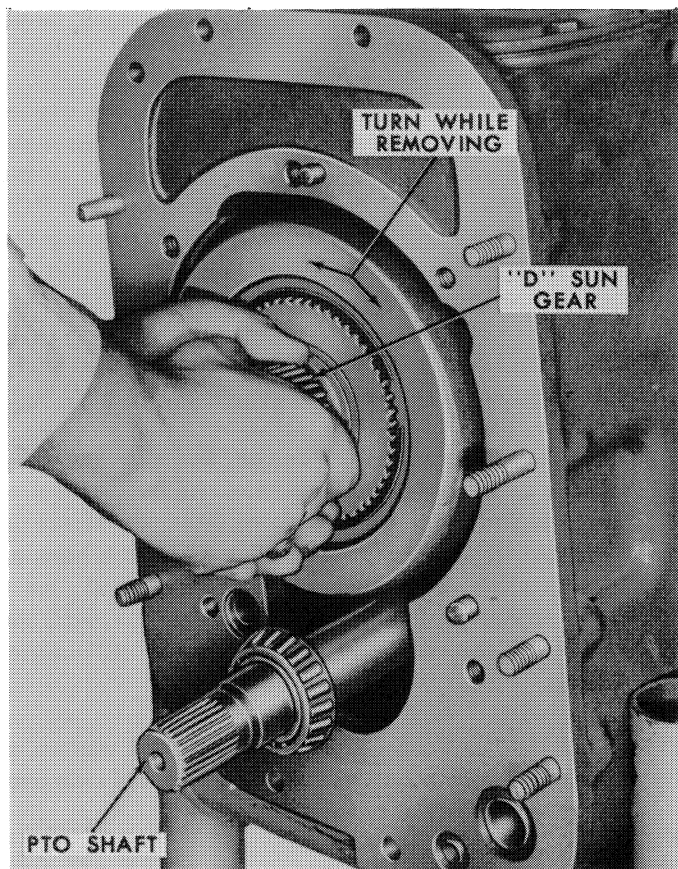

Figure 61
31. Install the "C" ring – "D" sun gear over the clutch 2 and 3 housing assembly, first aligning the ring gear with the "C" carrier pinions and the mainshaft with the bushing in the "D" sun gear. Then, align the splines with the spline plates in clutch pack 3, rotating the "D" sun gear back and forth while applying pressure toward the clutch pack, as shown in Figure 61.